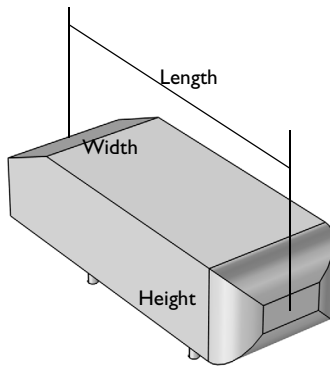

Figure 1: Ahmed body with 25 degree slant of the rear face.
The Ahmed body is presented in Figure 1. The total length (L) of the body is 1.044 m from front to end. It is 0.288 m in height and 0.389 m in width. Cylindrical legs of 0.05 m in length are attached to the bottom surface. The angle of the rear slanting surface is typically varied between 0 and 40 degrees. This particular geometry has a slant angle of 25 degrees, which is the same slant angle used in Ref. 3.